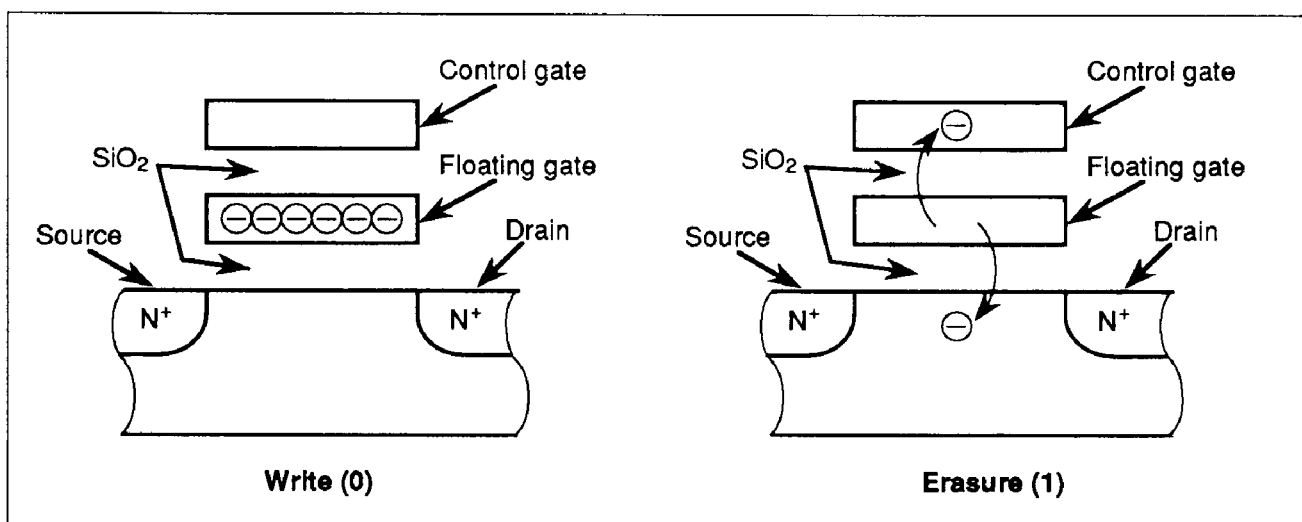

Figure 62 Cross-Sections of a EPROM Cell
**Principles of Programming/Erase:** A memory cell in a ZTAT™ microcomputer is the same as an EPROM cell: it is programmed by applying a high voltage between its control gate and drain to inject hot electrons into its floating gate. These electrons are stable, surrounded by an energy barrier formed by an SiO2 film. The change in threshold voltage of a memory cell with a charged floating gate makes the corresponding bit appear as 0; a cell whose floating gate is not charged appears as 1 (figure 62).